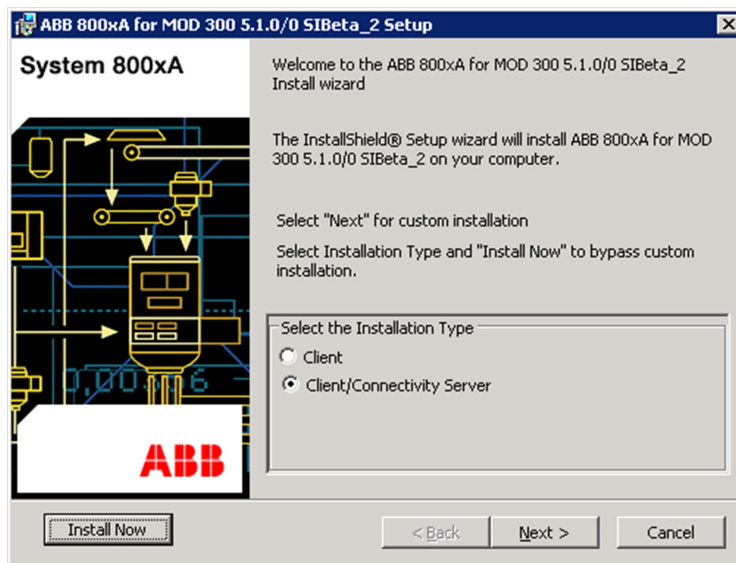

Figure 42. MOD 300 Setup Dialog Box
1. The ABB MOD300 Connect Setup dialog box appears. The installer determines the correct installation type, as shown in Figure 42.